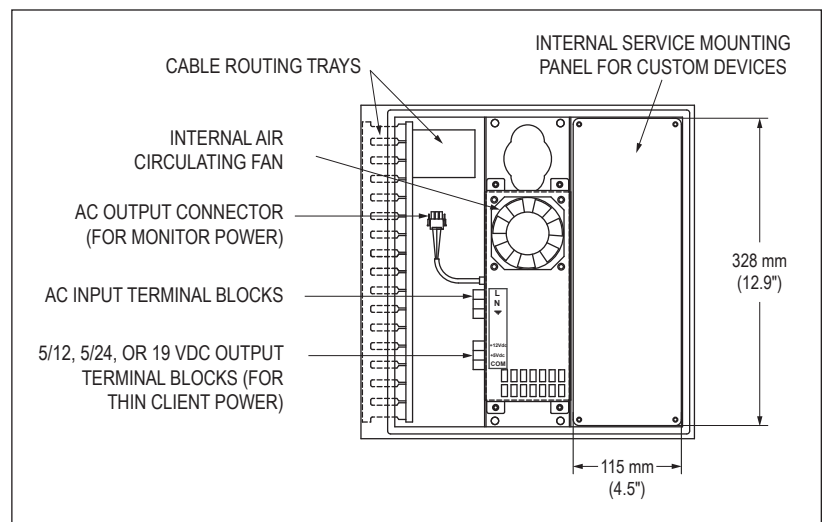

FIGURE 2 – INSIDE VIEW OF ENCLOSURE
2. Refer to Figure 2. Remove caps on Cable Routing Trays.
3. Refer to Figure 2. With power disconnected, hook up incoming power from mains supply to the AC input terminal blocks ("L" is black; "N" is white). Securely tighten terminal block screws.
5. Refer to Figure 2. Hook up AC power to the monitor using an HIS CCAC- __ cable (not included). Disconnect and discard the end of the cable with the NA plug. Plug the C-13 connector end of the cable into the power input port on the rear of the monitor. Route the cable in through the hole in the pedestal to the Thin Client / PC enclosure. Connect the Molex connector end of the cable to the AC output connector. Route cables through Cable Routing Trays.
- a. For Thin Clients or PCs with a power requirement other than what is provided, use the device manufacturer's brick power supply. Install the brick power supply to the internal service panel (shown in Figure 2) and connect the AC power side to the AC power input terminal block. After completing the installation, continue to step 12.
11. Refer to Figure 2. Hook the DC cable wires to the terminal block in the correct polarity [i.e. ground to COM (-)]. Connect the other wire to the appropriate 5, 12, 19, or 24 VDC terminal.